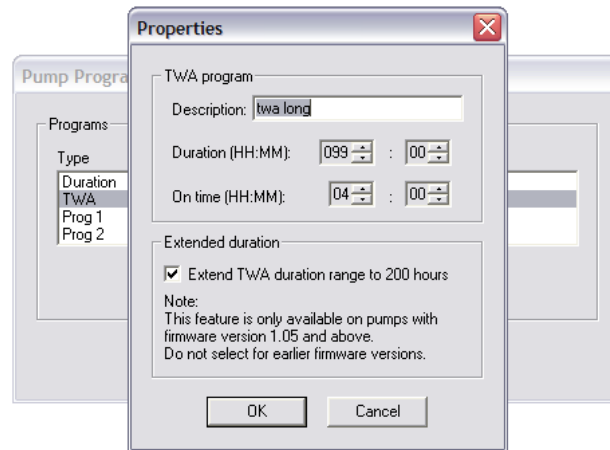

Figure 43 Duration Properties
8. Display the TWA Properties dialog which has the following options (Fig. 43):